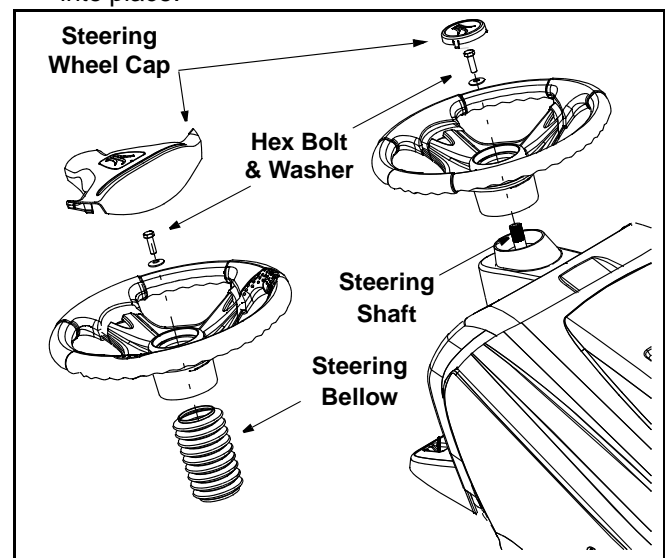

Figure 2
**NOTE:** There are two different styles of steering wheel cap. See Figure 2. **Styles vary by model.**
- On models so equipped, place the steering bellow over the steering shaft extending through the dash. See Figure 2.
- Place the washer (with the cupped side down) over the steering shaft and secure with the hex bolt. See Figure 2.